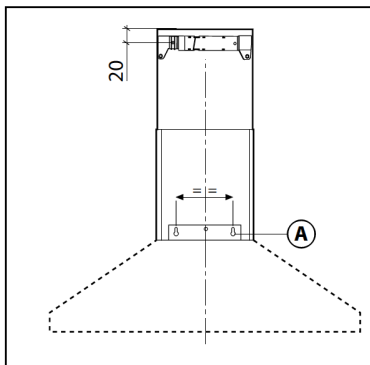
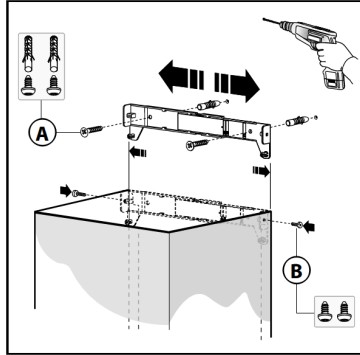
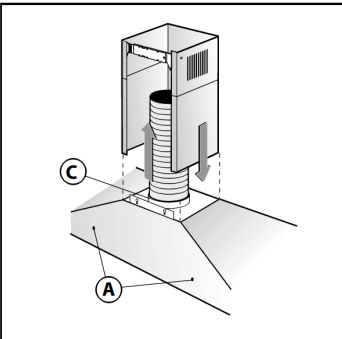

Fig.2
Fig.4
Fig.5
- Drill the holes A respecting the distances indicated (Fig.2).
Arrange the electrical power supply within the dimensions of the decorative flue. If your appliance is to be installed in the ducting version or in the version with external motor, prepare the air exhaust opening. Adjust the width of the support bracket of the upper flue (Fig.4). Then fix it to the ceiling using the screws A (Fig.4) in such a way that it is in line with your hood and respecting the distance from the ceiling indicated in Fig.2. Connect the flange C to the air exhaust hole using a connection pipe (Fig.5). Insert the upper flue into the lower flue and rest above the frame. Extract the upper flue up to the bracket and fix it with the screws B (Fig.4). To transform the hood from a ducting version into a filtering version, ask your dealer for the charcoal filters and follow the installation instructions.